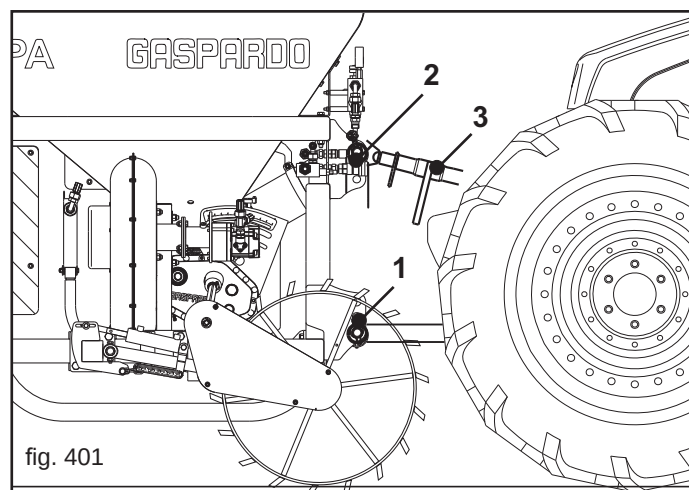
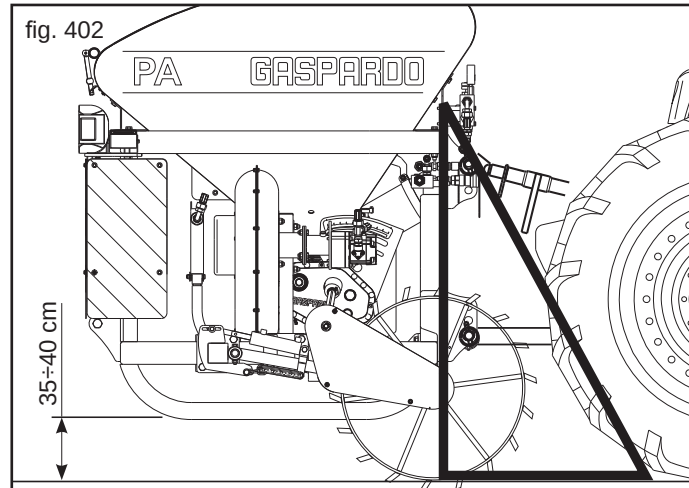

fig. 401
fig. 402
- 1) Hook the lifter bars onto the pins provided (1, Fig. 401) Block with the snap split pins. Hook the chains to the lifting bars
- 2) Connect the third upper point (2, Fig. 401); the pin will be blocked with the appropriate split pin; use the adjusting tierod (3, Fig. 401) to keep the equipment perpendicular to the ground (Fig. 402).
- 5) Raise the front machinery and remove the feet. In order to guarantee the rotation of the transmission wheel, adjust the working height of the machinery from the ground (35÷40 cm Fig. 402). **This distance must remain constant during operation.**